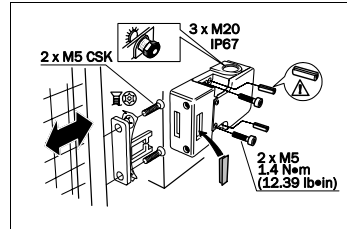

Fig. 1: Mounting safety switch
- Tighten safety switch with screws 2 x M5 to 1.4 Nm (see Fig. 1).